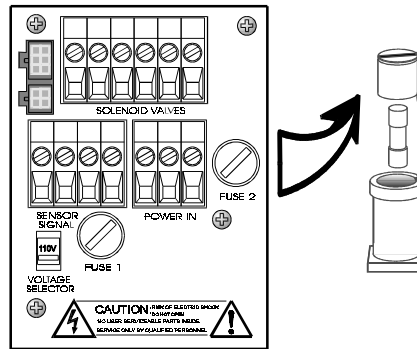

Figure 5-3: Removing Fuse Cap and Fuse from Holder
The 3010T Analysis Unit requires two 5 x 20 mm, 1.6 A, T type (Slow Blow) fuses. The fuses are located inside the explosion proof housing on the Electrical Connector Panel, as shown in Figure 5-3. To replace a fuse:
2. Place a small screwdriver in the notch in the fuse holder cap, push in, and rotate 1/4 turn. The cap will pop out a few millimeters. Pull out the fuse holder cap and fuse, as shown in Figure 5-3.